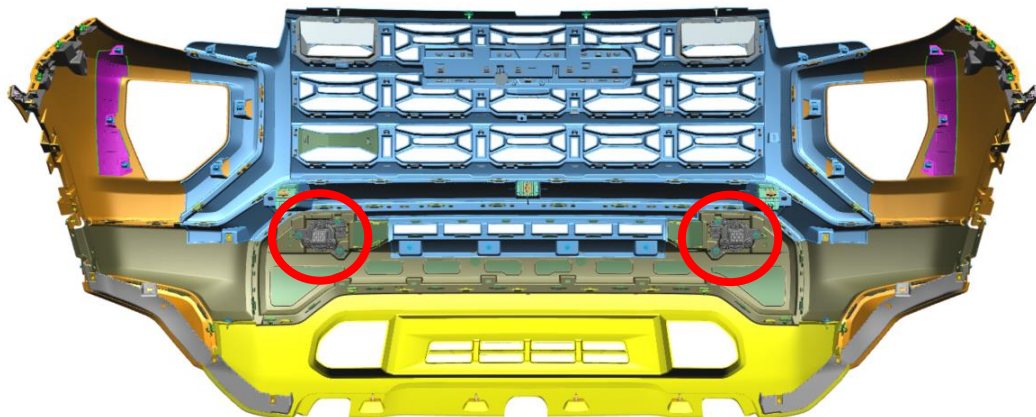

Figure 7 - Backside of Upper Front Fascia
- a. Remove [3] M4 Bolts (M7 Socket) per side and save light and hardware for AEV GMC Front Bumper – Fig. 7